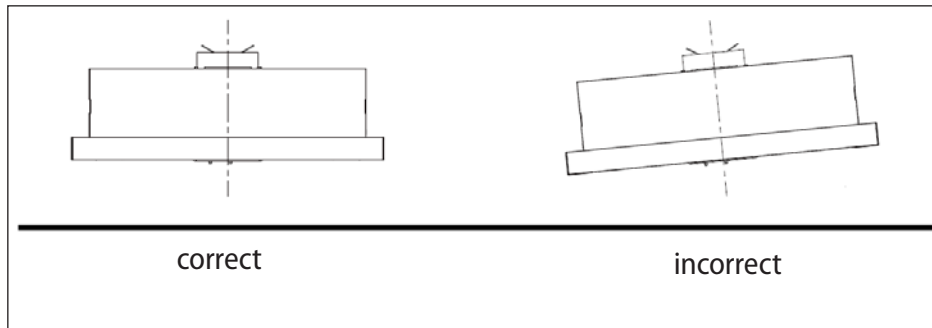

Fig. 7
5. Make sure that the hood is in the horizontal position in order to prevent grease (fat) from accumulating on one side of the appliance (Fig. 7).